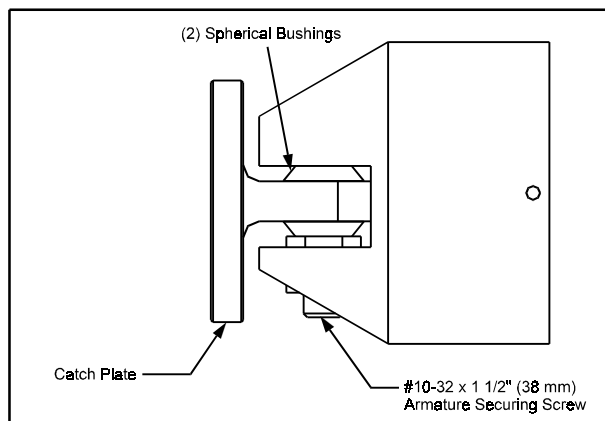

Figure 1. Armature Base Assembly
- a. Remove the #10-32 x 1 1/2" (38 mm) armature securing screw and remove the catch plate from the armature base (Figure 1).
- c. Insert the extension rod into the armature base and secure with #10-32 x 1 1/2" (38 mm) armature securing screw (Figures 1 and 2).